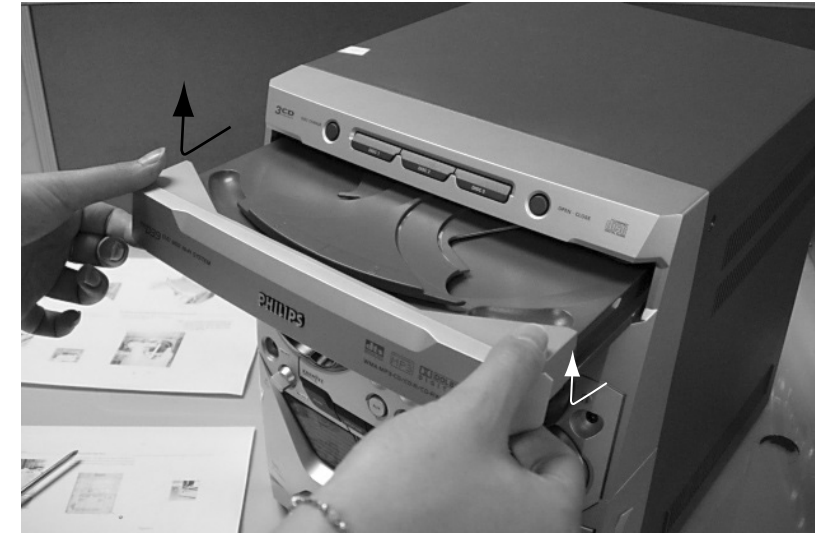

Figure 3
- 3) Remove the Cover Tray as shown in figure 3.